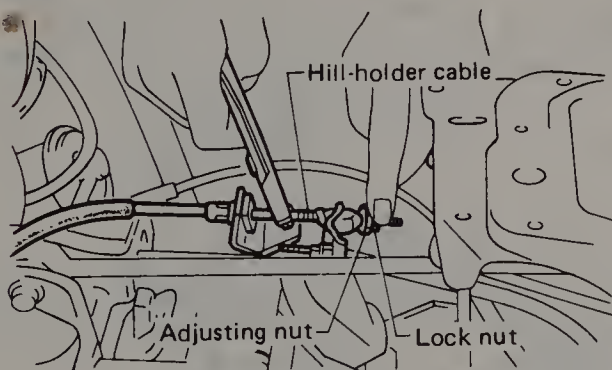

Fig. 13.9 Disconnect the hill-holder cable from the transmission (Sec 5)
- 18 If equipped with a manual transmission, disconnect the hill-holder cable (Fig. 13.9).